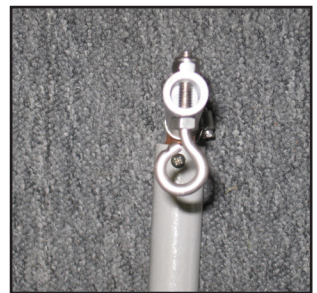

Fig. 16
- Position the Eye-bolt as shown in Fig. 16. Tighten the anti-vibration Hex Nut until the tube deforms slightly.